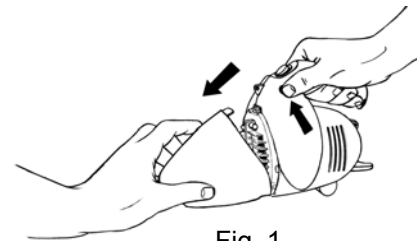

Fig. 1
1. To open the Dust Cup (container) (10), push button (1) and pull out the Dust Cup (container) (10), (fig. 1).